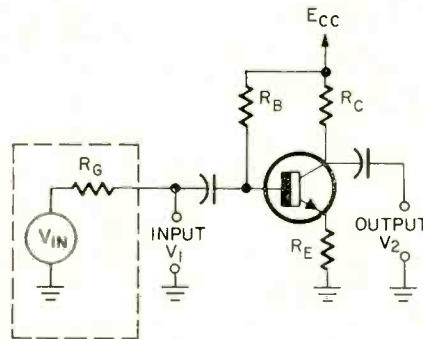
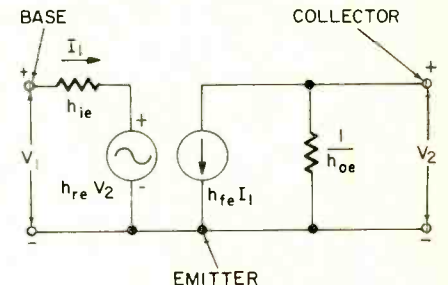
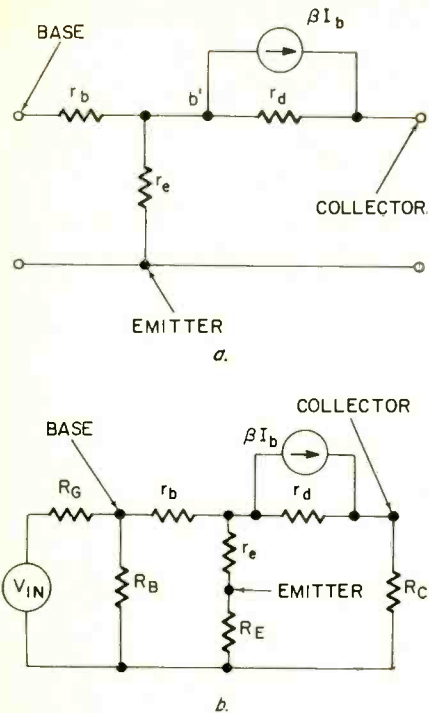

FIG. 2—COMMON-EMITTER amplifier complete with input and output circuits and equivalent input signal generator.
FIG. 3—HYBRID EQUIVALENT of a common-emitter transistor. Polarity markings show relative phase at any one instant.
FIG. 4-a—T-EQUIVALENT of transistor in common-emitter circuit. Input and output have been added to transistor (b) for a complete equivalent of Fig. 2.
1. When a short is placed across R_C , V_2 is zero. A ratio of short circuit output current to the input current, I_2/I_1 , is assigned the symbol h_f or h_{21} . In the common-emitter circuit in Fig. 2, this is refer-
A circuit describing the transistor by using each of these relationships, is shown in Fig. 3. All circuit arrangements are represented by the same equivalent circuit and similar h-parameter symbols. In all cases, subscripts are added to the symbols to indicate the circuit involved. Thus h_{re} refers to h_r for the common-emitter mode
In the common-emitter circuit in Fig. 2 the signal-voltage source, V_{in} , feeding the base-emitter circuit has an internal impedance R_G . R_C is the collector load resistor. Compare this with the equivalent circuit in Fig. 3. Here, only the transistor is represented in the equivalent circuit. The impedance looking into the base of the transistor is h_{ie} , modified by the presence of $h_{re}V_2$. Similarly, the output impedance is $1/h_{oe}$ in parallel with the current source $h_{fe}I_1$. The voltage, current and power gains can also be determined from the two loops in Fig. 3.
In Fig. 4-a, the equivalent-T model of the transistor is shown. It looks more like the actual transistor than does the hybrid equivalent network. Advantageously, it is easier to use in design and analysis procedures than is the hybrid model.
In Fig. 4-b, the input source and output load have been added to the transistor network. The input is applied between the base and emitter while the output from the amplifier stage is developed between the collector and emitter.
The various bits of data about the circuit in Fig. 2 can be determined by analyzing the T-equivalent circuit when it is connected to all resistors and sources in the associated circuit, as in Fig. 4-b. The voltage source sees an impedance when looking into the transistor. It is equal to the base resistor, r_b , in addition to the sum of the emitter resistance, r_e , and the external emitter resistor, R_E , when the latter two are multiplied by beta. (As discussed in a previous article, all resistors when reflected from the emitter into the base circuit, appear in the base circuit as the emitter resistors multiplied by the beta of the transistor.) Consequently the total transistor input resistance seen by the generator is
R_{IN} is shunted by the bias resistors R_B in Fig. 2. The source feeding the transistor sees R_B in parallel with R_{IN} .
In a similar manner, with similar considerations, all the other statistics for the common-emitter arrangement can be determined using the equivalent-T model. Assigning R_{OUT} to represent the impedance the collector load resistor sees by looking back into the transistor, while A_v is the voltage gain of the circuit in Fig. 2, and A_i and G are the current and power gains, respectively, of the circuit, the approximate equations derived for the common emitter arrangements are: